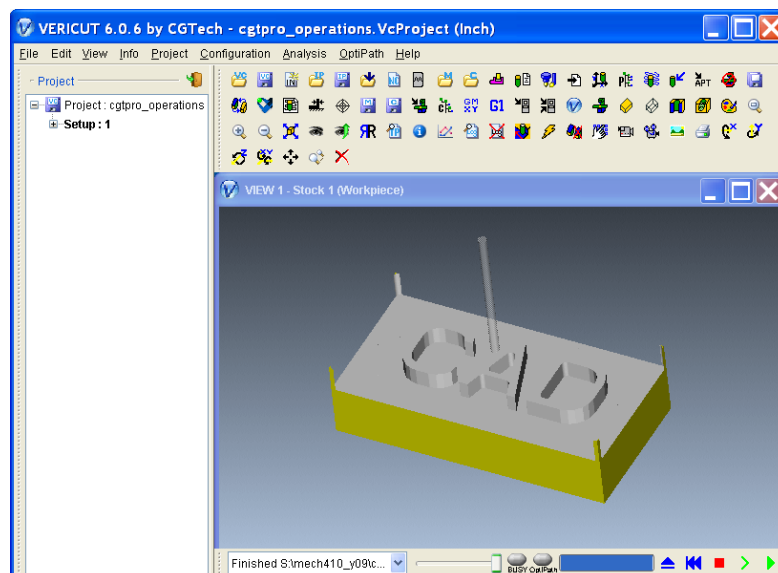

Figure 1.38
8. View tool path. Machining → NC Sequence → Play path → NC Check. The cutting path is shown in Figure 1.38.